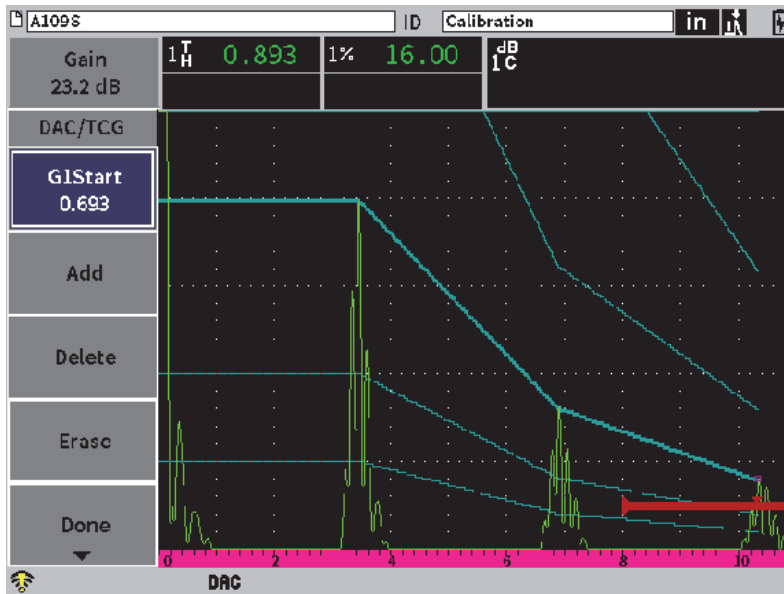

Figure 11-16 JIS curves
- Adjust the G1 Start value and use the **Add** button to add points and build the desired DAC curve (see Figure 11-16 on page 170).